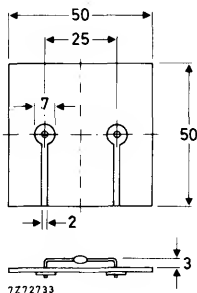

Fig. 2 Mounted on a printed-circuit board.
- Thermal resistance from junction to ambient when mounted on a 1,5 mm thick epoxy-glass printed-circuit board; Cu-thickness ≥ 40 μm ; Fig. 2